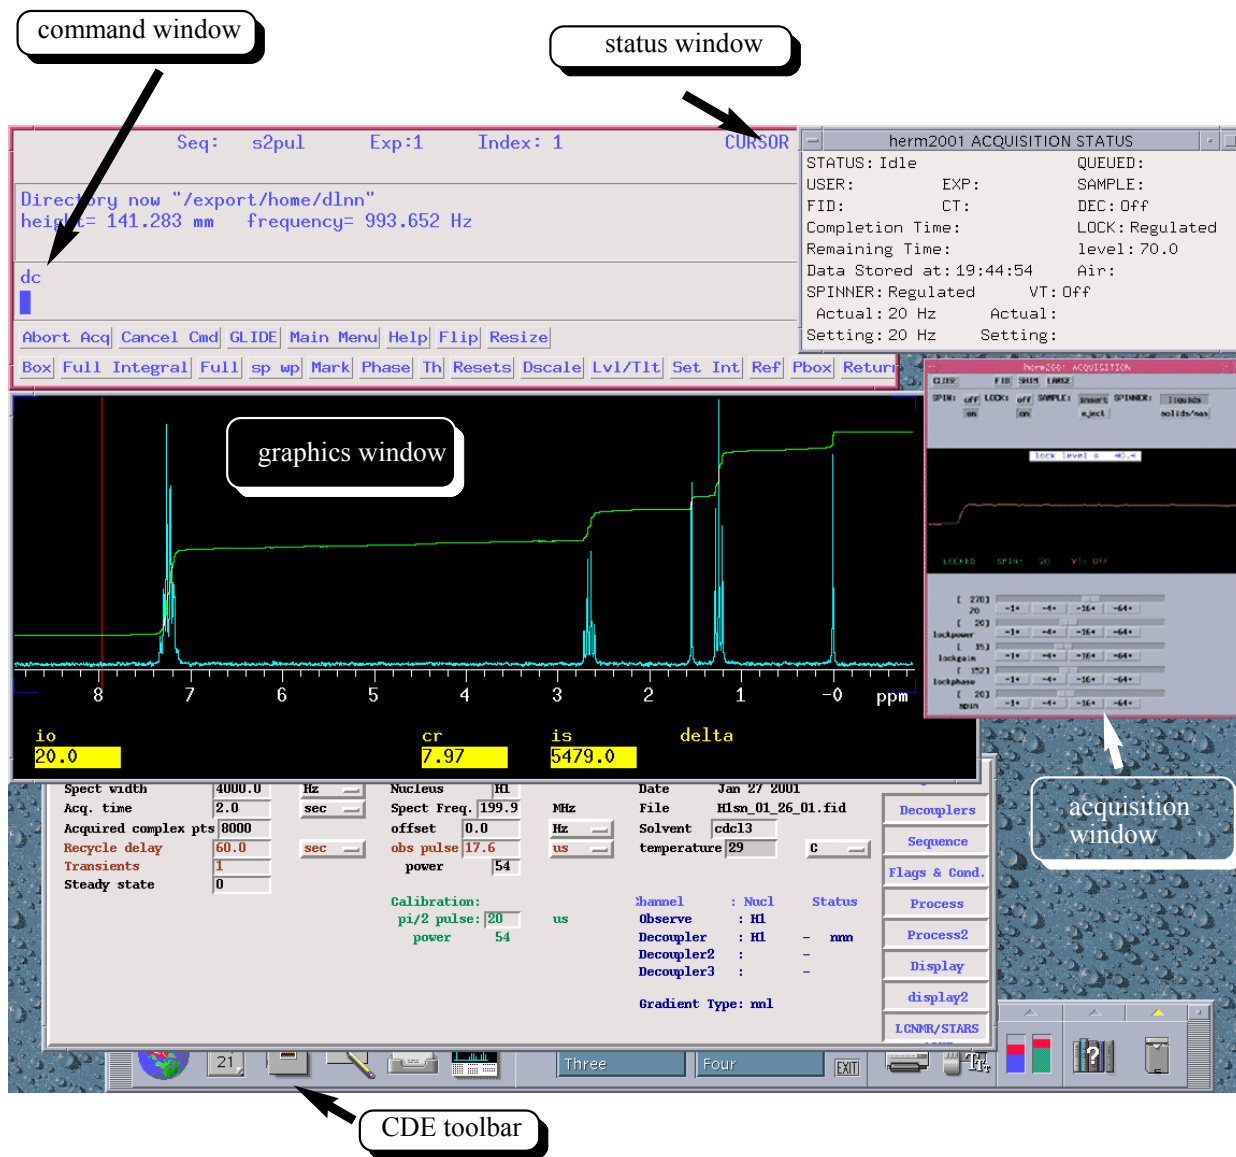
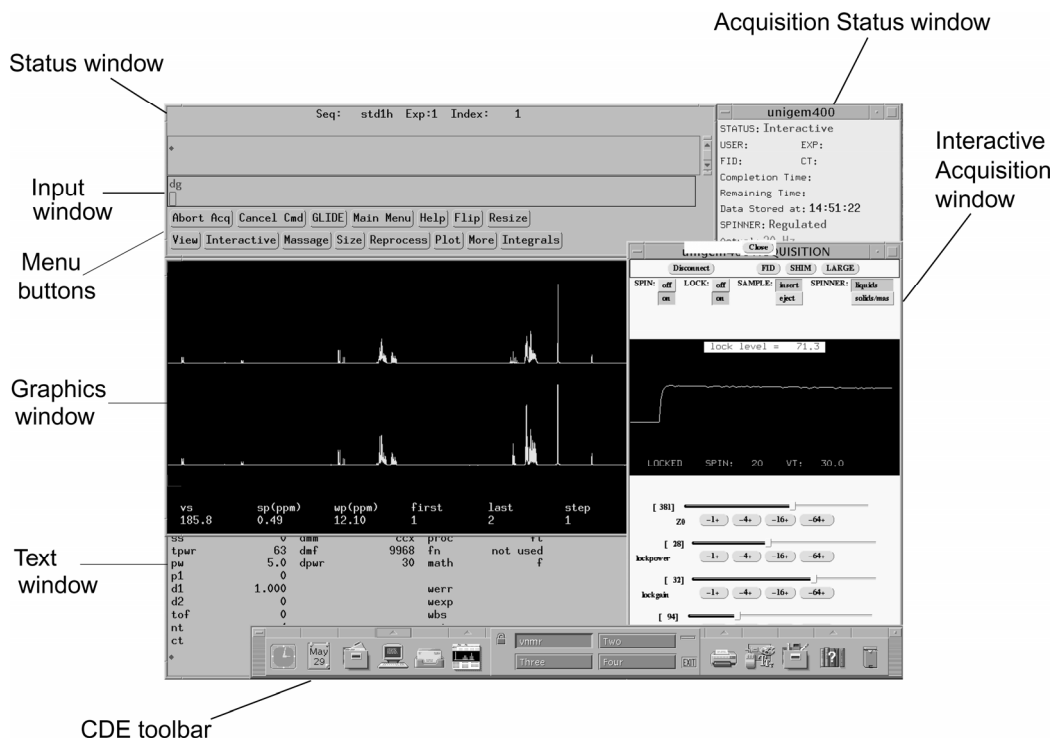

Figure 3. Layout of VNMR windows after login
Figure 6. Upper command area showing menu buttons and assorted windows.
2. Click the VNMR icon to start the VNMR software. This looks something like **Figure 3** (see also **Figure 6**, p. 11)